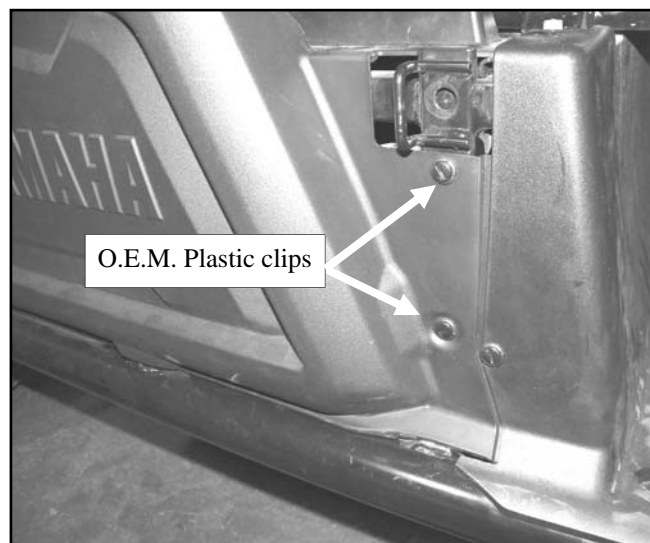

Fig. 10.1 (View of passenger's side)
10.1 See fig. 10.1. Unscrew and remove two plastic clips holding the side panel to the vehicle.